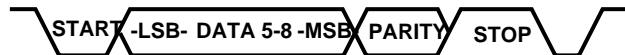

FIGURE 8-2. Composite Serial Data
- Format conversion between the internal parallel data format and the external programmable composite serial format. See Figure 8-2.
The composite serial data stream produced by the UART is illustrated in Figure 8-2. A data word containing five to eight bits is preceded by start bits and followed by an optional parity bit and a stop bit. The data is clocked out, LSB first, at a predetermined rate (the baud).